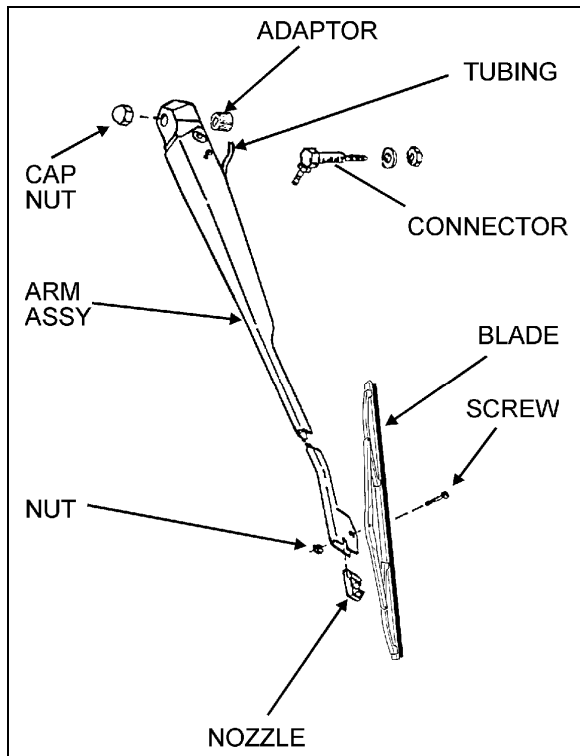

FIGURE 38: UPPER WINDSHIELD WIPER
7. Loosen the bolt retaining the lever at the end of the motor driving shaft (Fig. 38).